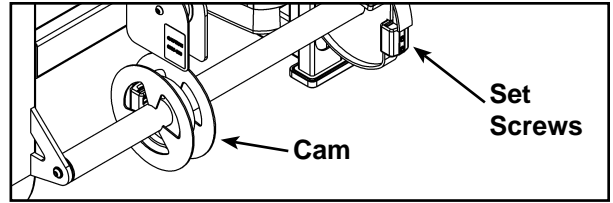

Figure 1
- D. Rotate cam and disconnect weight stack belt from cam (by loosening the two set screws on the belt clamp with a 7/32" Allen wrench). See Figure 1.
- O. Connect the weight stack belt to the belt clamp of cam (removed in step 4D). See Figure 1.